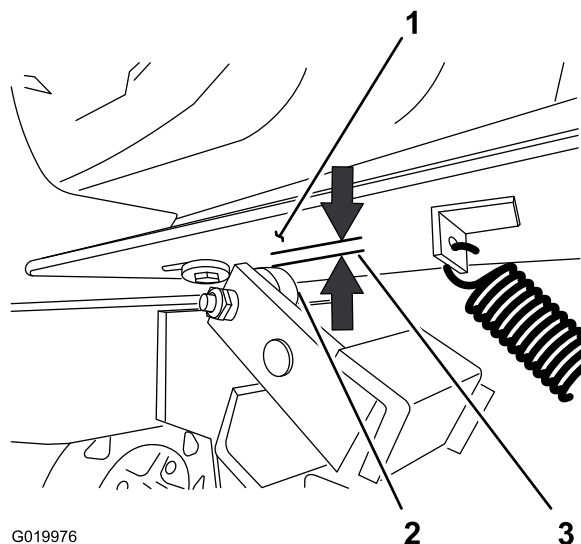

Figure 55
2. Measure the air gap between the engine deck and the roller on the clutch (Figure 55).